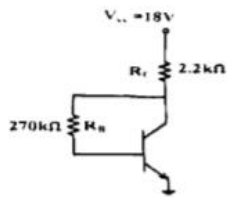

Figure 2
- (ii) Depletion width (W)
4. (a) Accurately analyze the collector-to-base bias circuit is shown in Figure 2 to determine the I_B , I_C and V_{CE} when